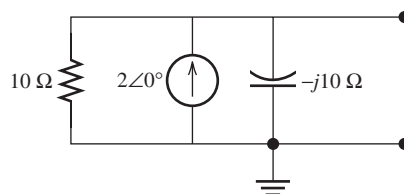

FIGURE P6.51 Circuit for Problem 6.51.
- 6.51 (A) Find the Thévenin equivalent circuits for the circuit shown in Figure P6.51.